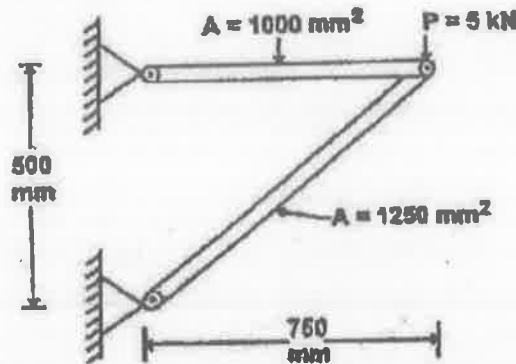

Fig. 14(b)
- (b) The loading and other parameters for a two-bar truss element is shown in Figure. 14 (b). Determine (i) the element stiffness matrix for each element (ii) Global Stiffness matrix (iii) nodal displacements (iv) reaction forces. Assume $E = 200 \text{ GPa}$.